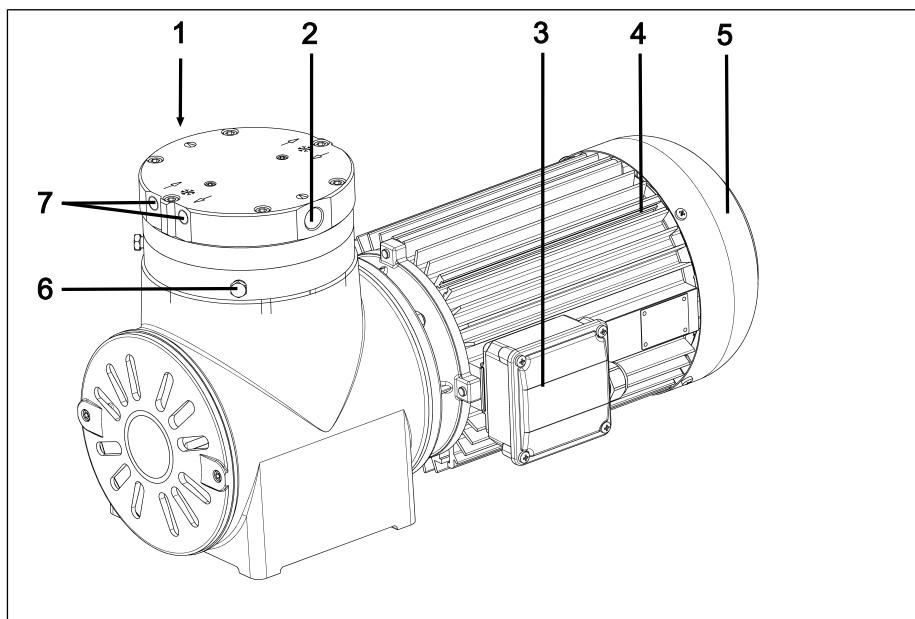

Fig. 1 Diaphragm pump N1200.12
2. Fasten the carrying strap between compressor housing and motor (Fig. 1, see Fig. 5).